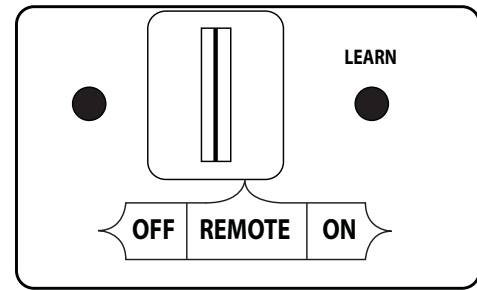

Fig. 23-2 Remote receiver (OFF for Manual Light)
1. Ensure the pilot is burning. Then locate the 3-position switch on the remote receiver (see Fig. 23-2), and slide the switch to the **OFF** position.